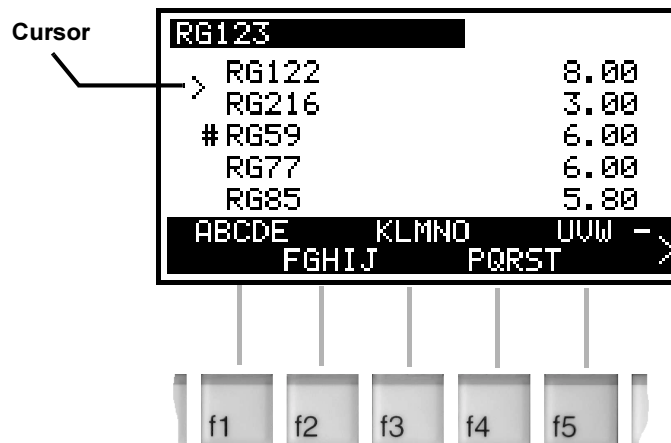

Fig. 10. Naming and Saving Cables
- Press **f2**, **f2**. Groups of letters appear in the footer of the screen (Fig. 10).